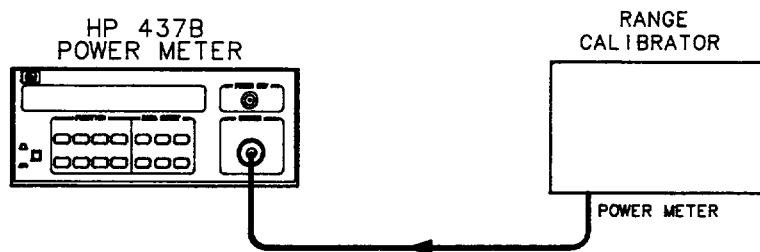

Figure 5-2. Ranges 4 and 5 shaper Adjustment Setup
1. Connect range calibrator to the Power Meter as shown in Figure 5-2.